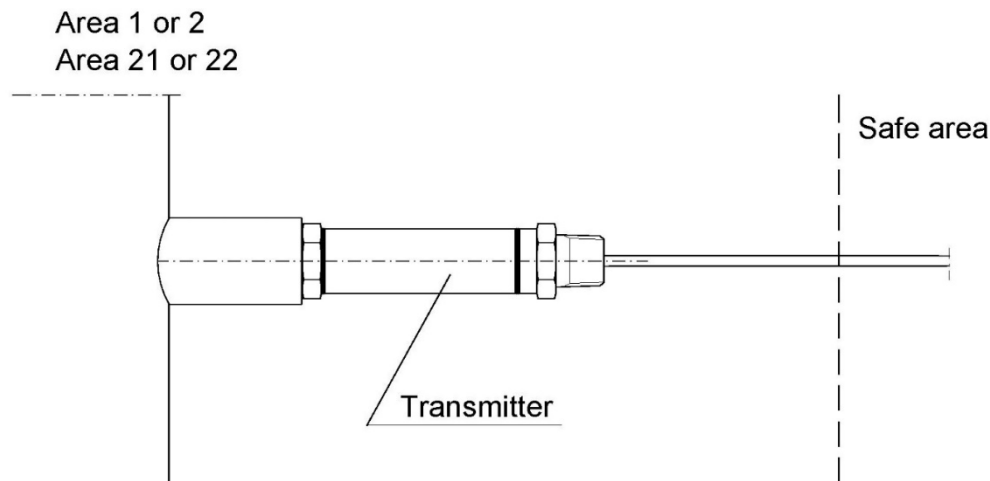

Figure 5. Transmitter installed in the hazard zones
The 2G (2D) category of the transmitter means that the transmitter and process connector may be installed in a hazardous area of a 1st (21) or 2nd (22) class (example is shown in Fig. 5).